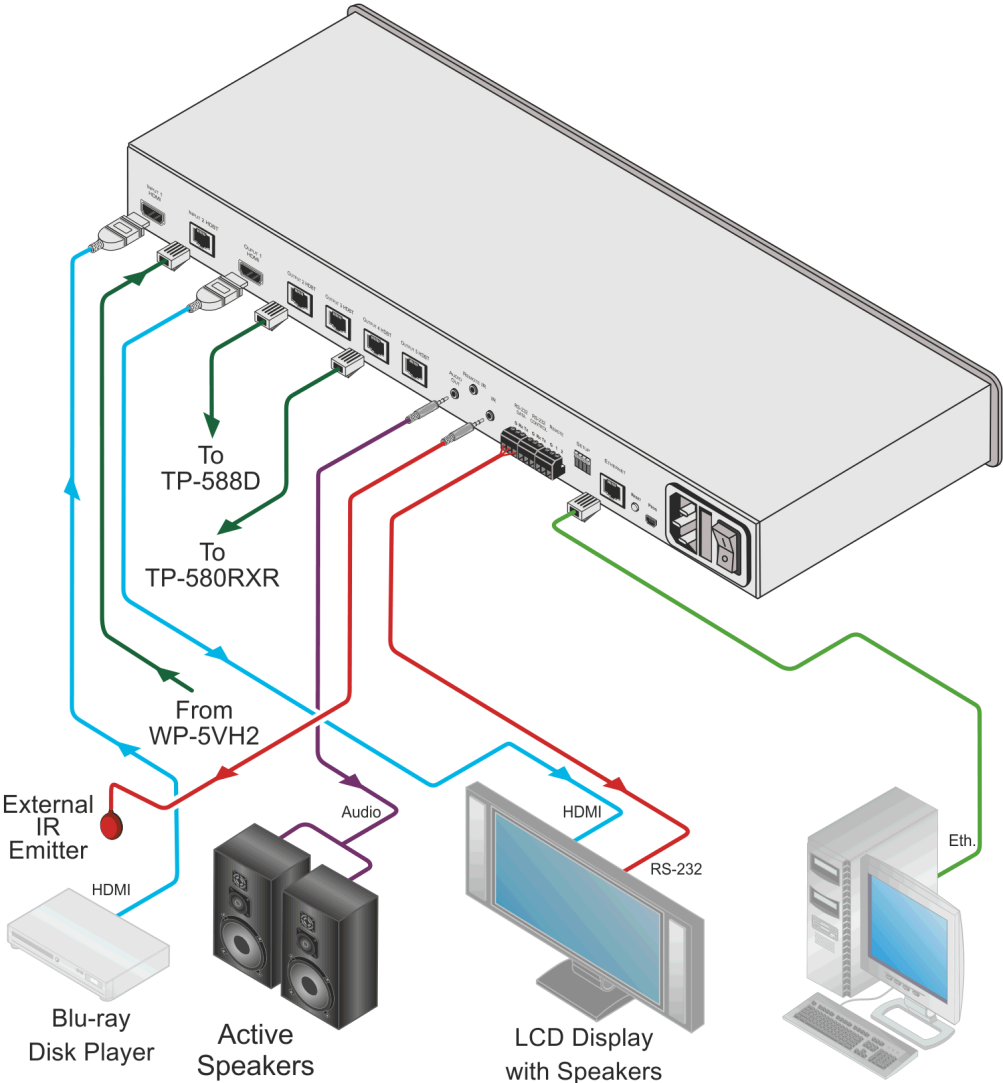

Figure 3: Connecting the VM-214DT HDMI/HDBT Switcher/DA
**To connect the VM-214DT, as illustrated in the example in Figure 3:**